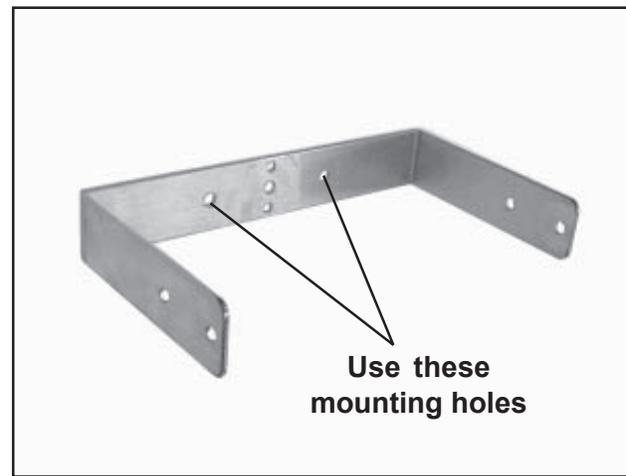

Figure 8. Console Bracket on Wall
7. Hold the mounting surface of the console bracket up to the wall at the chosen location (Figure 8) and mark the centers of the two mounting holes onto the wall. **Note:** Try to avoid a location where a mounting hole is directly over a stud.